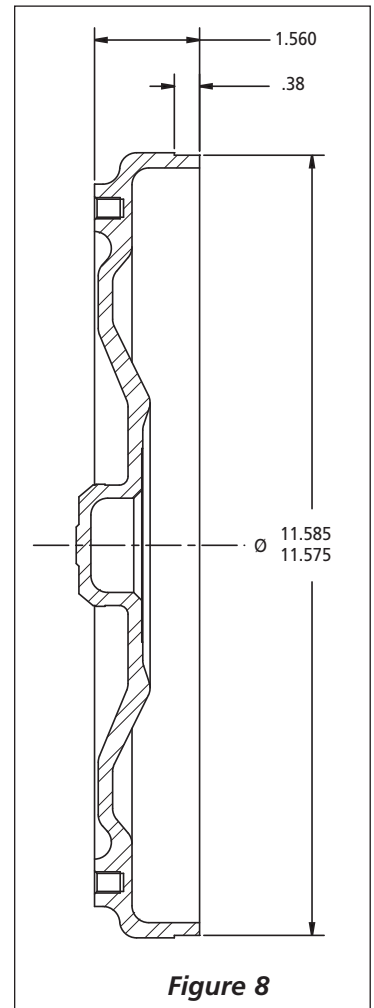

Figure 8
- On the **CH-CC-5**, machine the lip of the front cover down to 1.560" from the mounting pads. Turn the OD of the cover down to 11.585"/11.575" diameter, .38" from the end of the cover (see Figure 8).